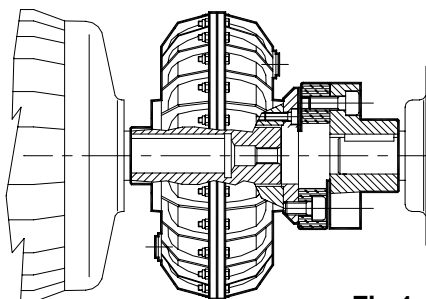

Fig.1
*For the mounting of the ROTOFLUID coupling to the motor it is indispensable to operate on the shaft① of the coupling to avoid axial stress on the bearings. It is recommended to fix on the motor shaft a screw stay② on which a nut③ is tightened possibly resting to a thrust bearing④ (see Fig.1)*
- 1) Smontare l'elemento in gomma del giunto elastico (F) ROTOFLEXI come indicato in Fig.1
- 1) *Demount the ROTOFLEXI rubber element (F) as shown at Fig.1*